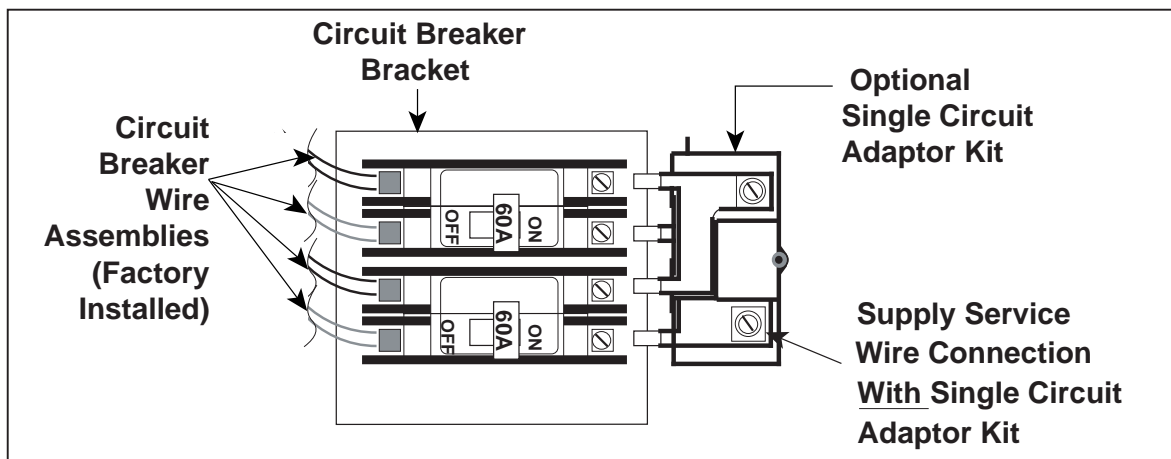

Figure 18. Installation of Optional Single Circuit Adaptor Kit
- -012 models are factory-wired for single-branch supply circuit (single-circuit kit installed). Dual-branch circuit can be used by removing factory-installed single-circuit kit (see Figures 18 and 19).
4. Insert supply service wire(s) through cable connector(s) and connect wires to circuit breakers (Figures 18 and 19).